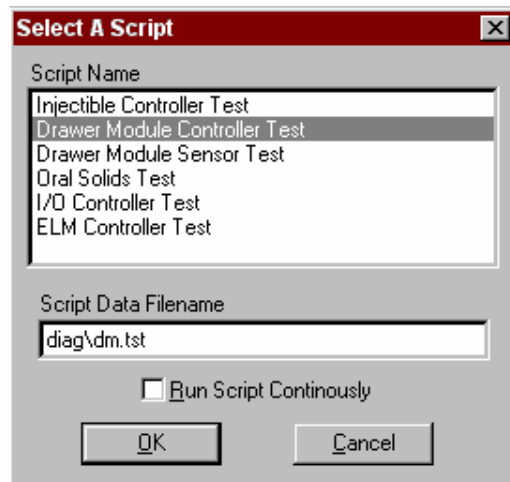

Figure 2-4 Selecting Configuration Script
2. Select the controller type that will be under test (see Figure 2-4).